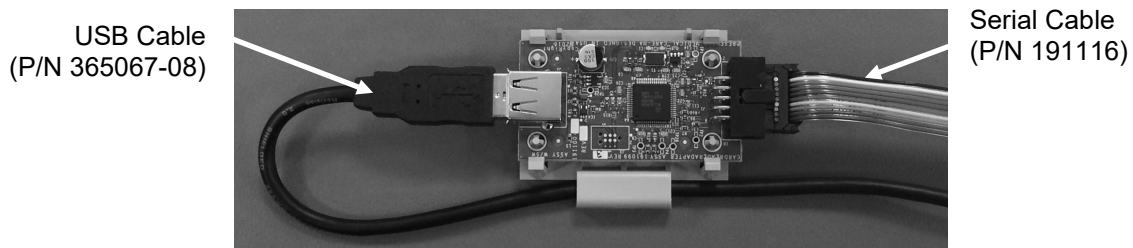

Figure 6 – Card Reader Adapter Board
14. Connect the USB Cable (P/N 365067-08) into the card reader adapter board assembly as shown in Figure 6.
15. Connect the Serial Cable (P/N 191116) into the card reader adapter board assembly as shown in Figure 6.